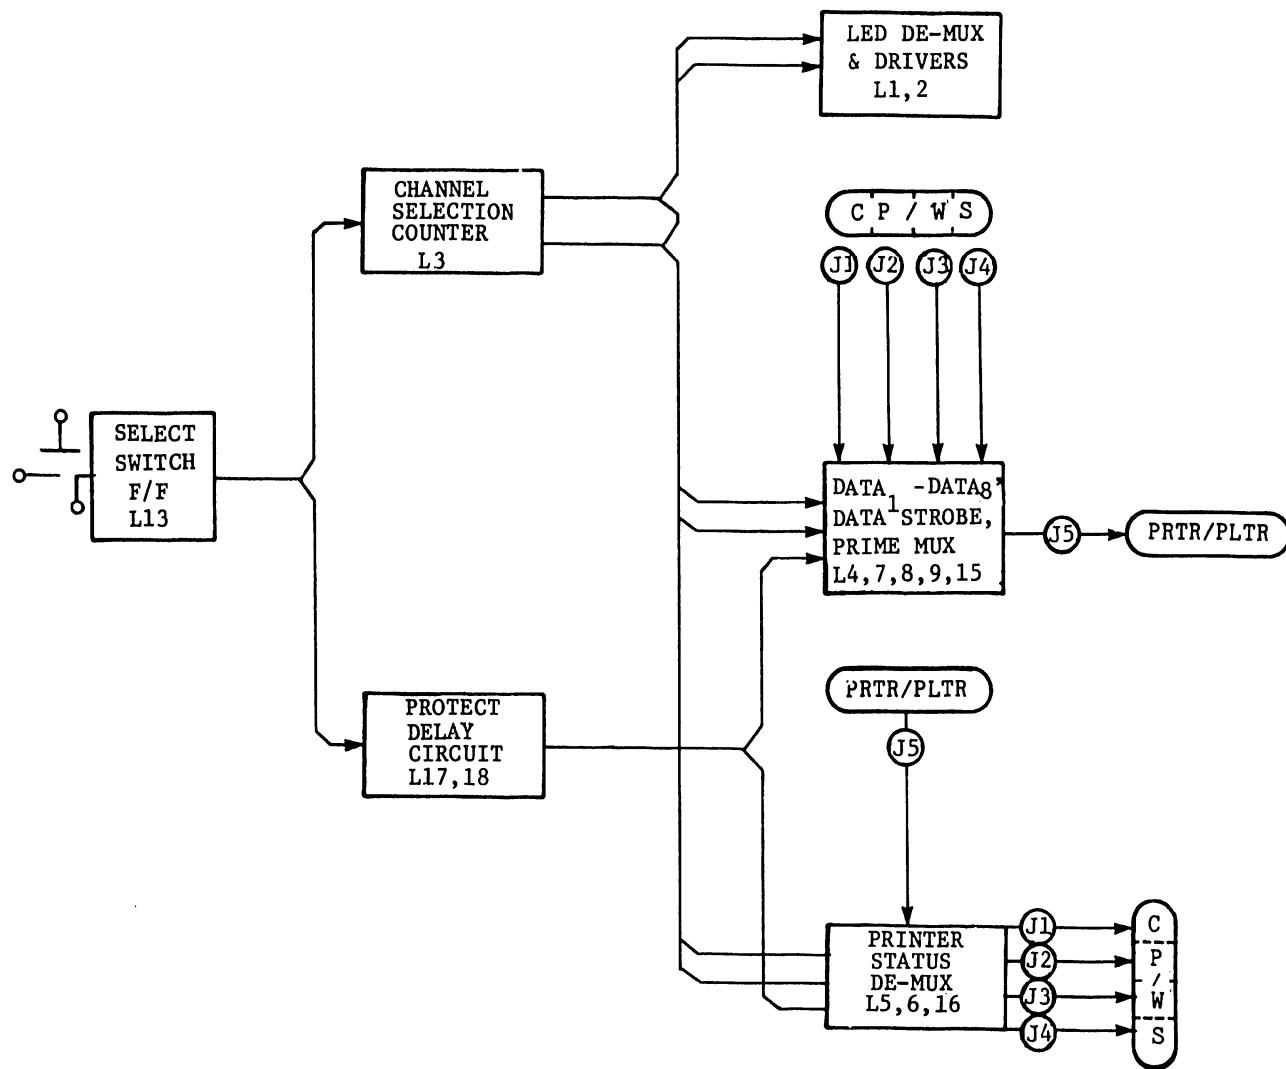

FIGURE 4-1 BLOCK DIAGRAM
4.2 POWER-ON (Reference FIGURE 4-1.)
4.3 CHANNEL-SELECTION (Reference FIGURE 4-1.)
#### 4.4 PROTECT-DELAY (Reference FIGURE 4-1.)